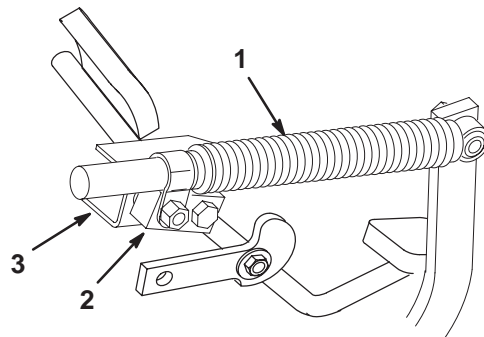

Figure 61
2. Loosen the locknut securing the damper pivot to the damper bracket (Fig. 61).